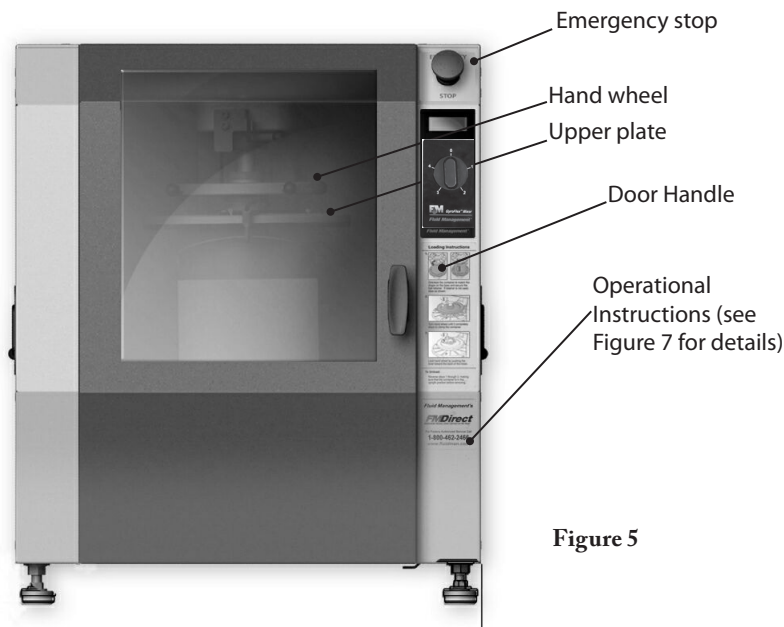

Figure 5
- 5 - Make sure can is positioned vertically. Close door and turn handle clockwise until it stops (Figure 5). A safety switch prevents operation of paint mixer while door is unlatched.